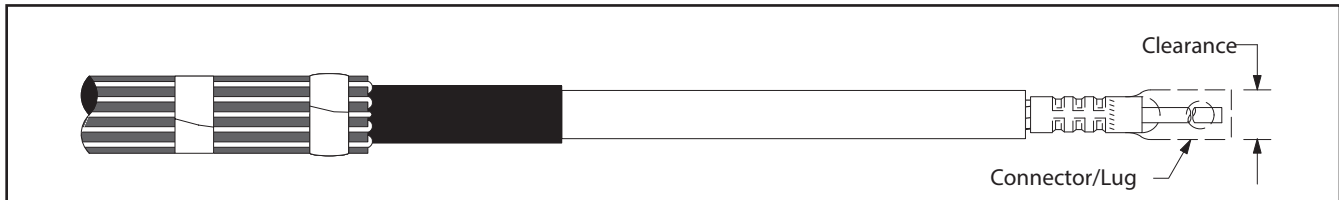

Figure 4
- 3.1 Check to insure 3M Cold Shrink QT-III Silicone Rubber Termination assembly fits over the selected lug or connector BEFORE installing the lug or connector.** If lug or connector (Figure 4) will not fit through the termination core, clean the insulation (per Step 4.0) and slide termination on cable before installing Lug or Connector. **DO NOT REMOVE CORE AT THIS TIME.**